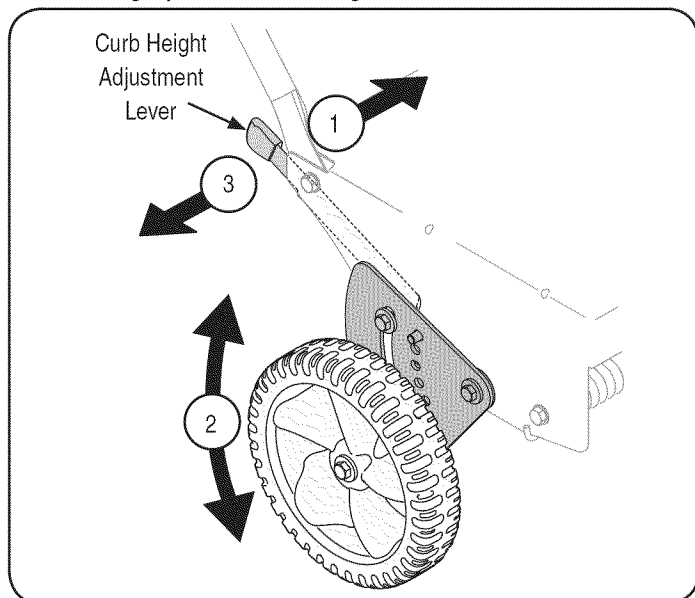

Figure 8
1. Lower the right, rear wheel by moving the curb height adjustment lever slightly to the left. See Figure 8.